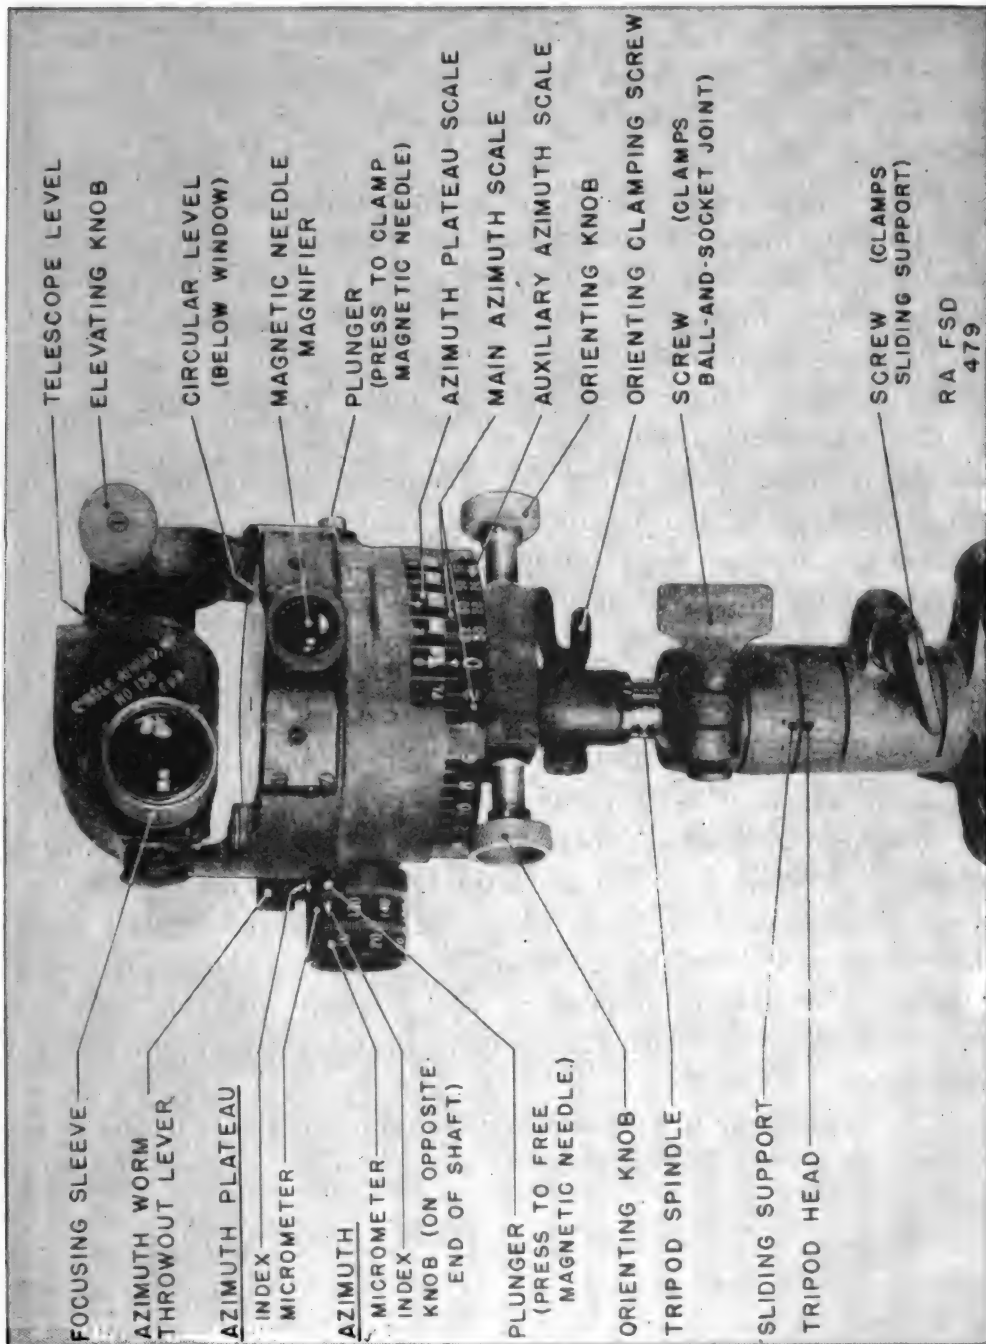

FIGURE 52.—Aiming circle M1, without instrument light.
**64. Circle, aiming, M1.**—*a. Description.*—This instrument (fig. 52) is used for measuring angles in azimuth and site and for general topographic work. It includes a 4-power telescope with a laterally and vertically graduated reticle, 2 levels, a declinator, elevating, orienting, and azimuth mechanisms, and azimuth scales and micrometers. Azimuth indications are in mils, numbered to correspond to the scale indications of other instruments commonly used with the aiming circle. No scale other than that on the reticle is provided for vertical angles. The instrument is furnished complete with tripod and carrying case.
*c. Operation.*—(1) To set up the instrument, clamp the tripod legs at the desired length and embed them firmly in the ground. Clamp the sliding support of the tripod at the desired height. Level the instrument using the circular level and the ball-and-socket joint. Focus the telescope as required, using the sleeve on the eyepiece.